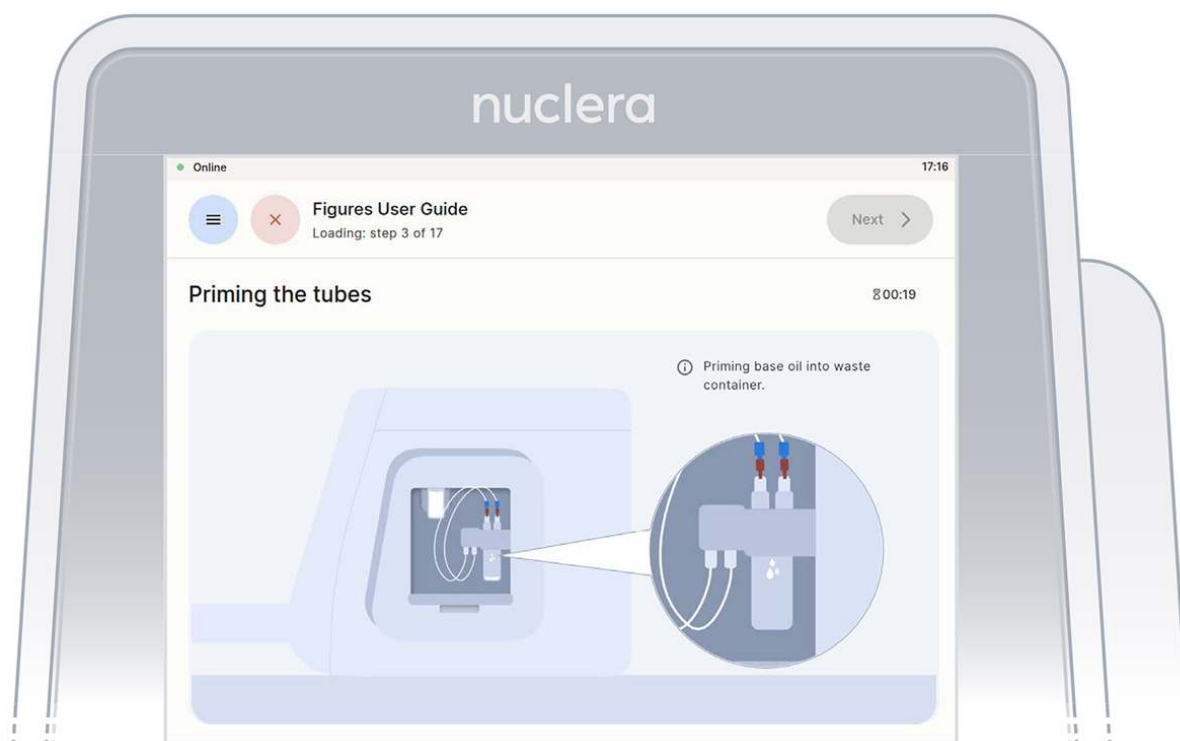

Figure 13: Priming the pump tubes with base fluid
1. With the tubes and containers in place, ensure that some of the base fluid has dripped into the waste container (Figure 13).